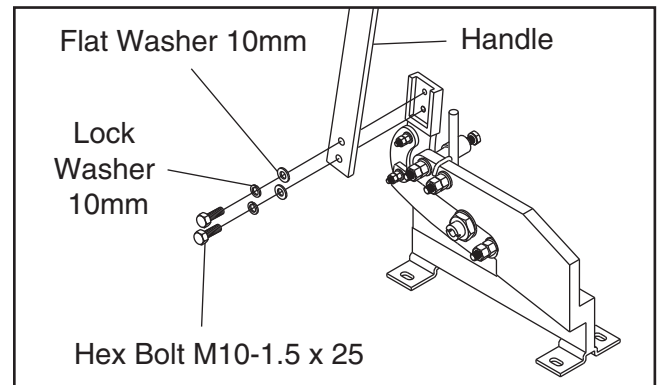

Figure 2. Attaching handle to shear.
1. Attach handle to plate shear assembly with hex bolts, lock washers, and flat washers, as shown in **Figure 2**.